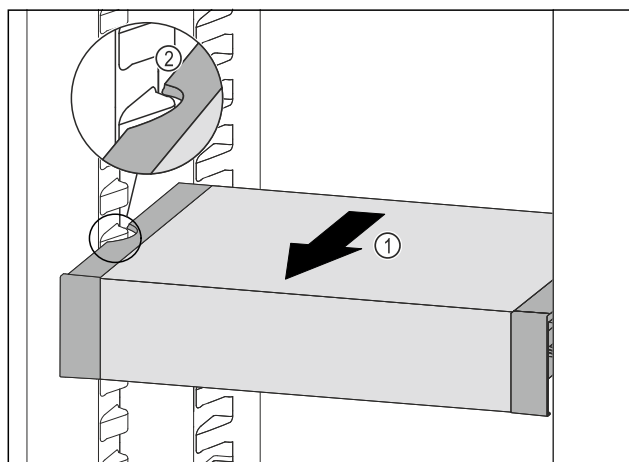

Fig. 140
- Pull VarioSafe forwards *Fig. 140 (1)* until the recesses in the side of the VarioSafe are at the level of the support rib in the fridge section. *Fig. 140 (2)*